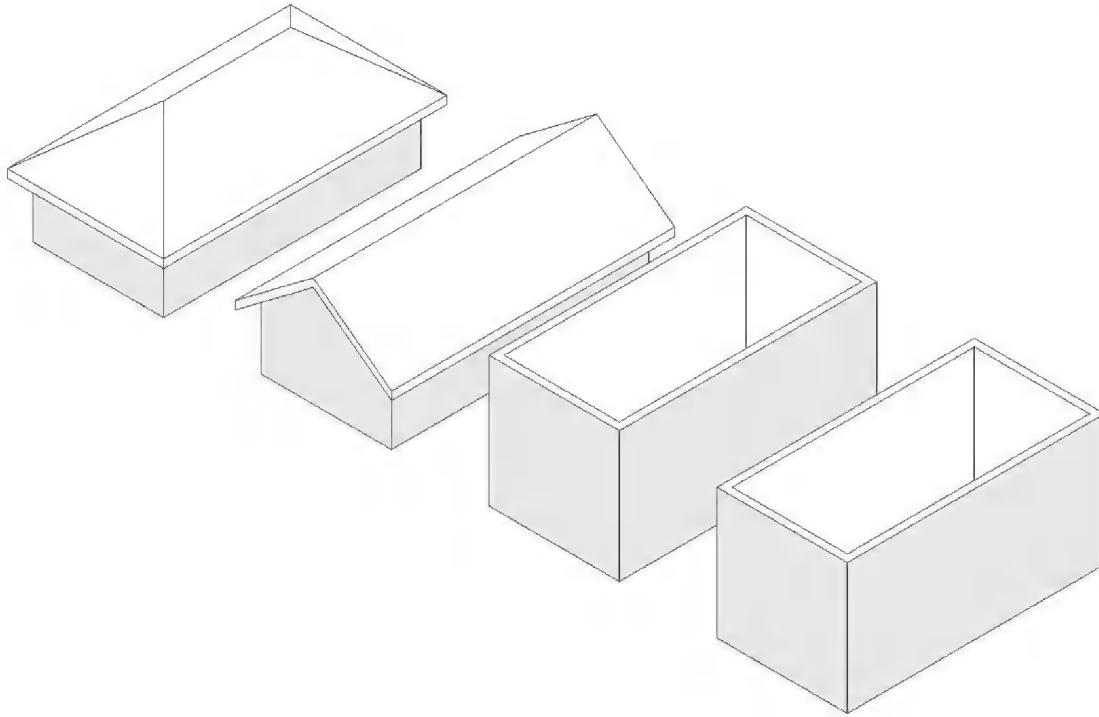

FIGURE 6-3.7 3D view – gable roof
25. Switch to the **3D** view (Figure 6-3.7).